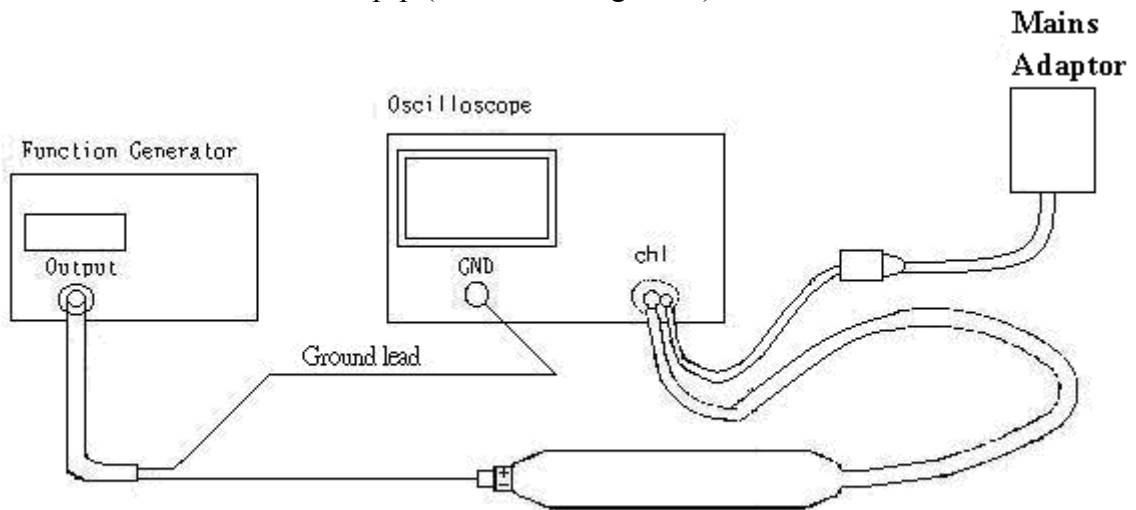

Fig. 7
- D-1. Connect the probe as shown in Fig 7.